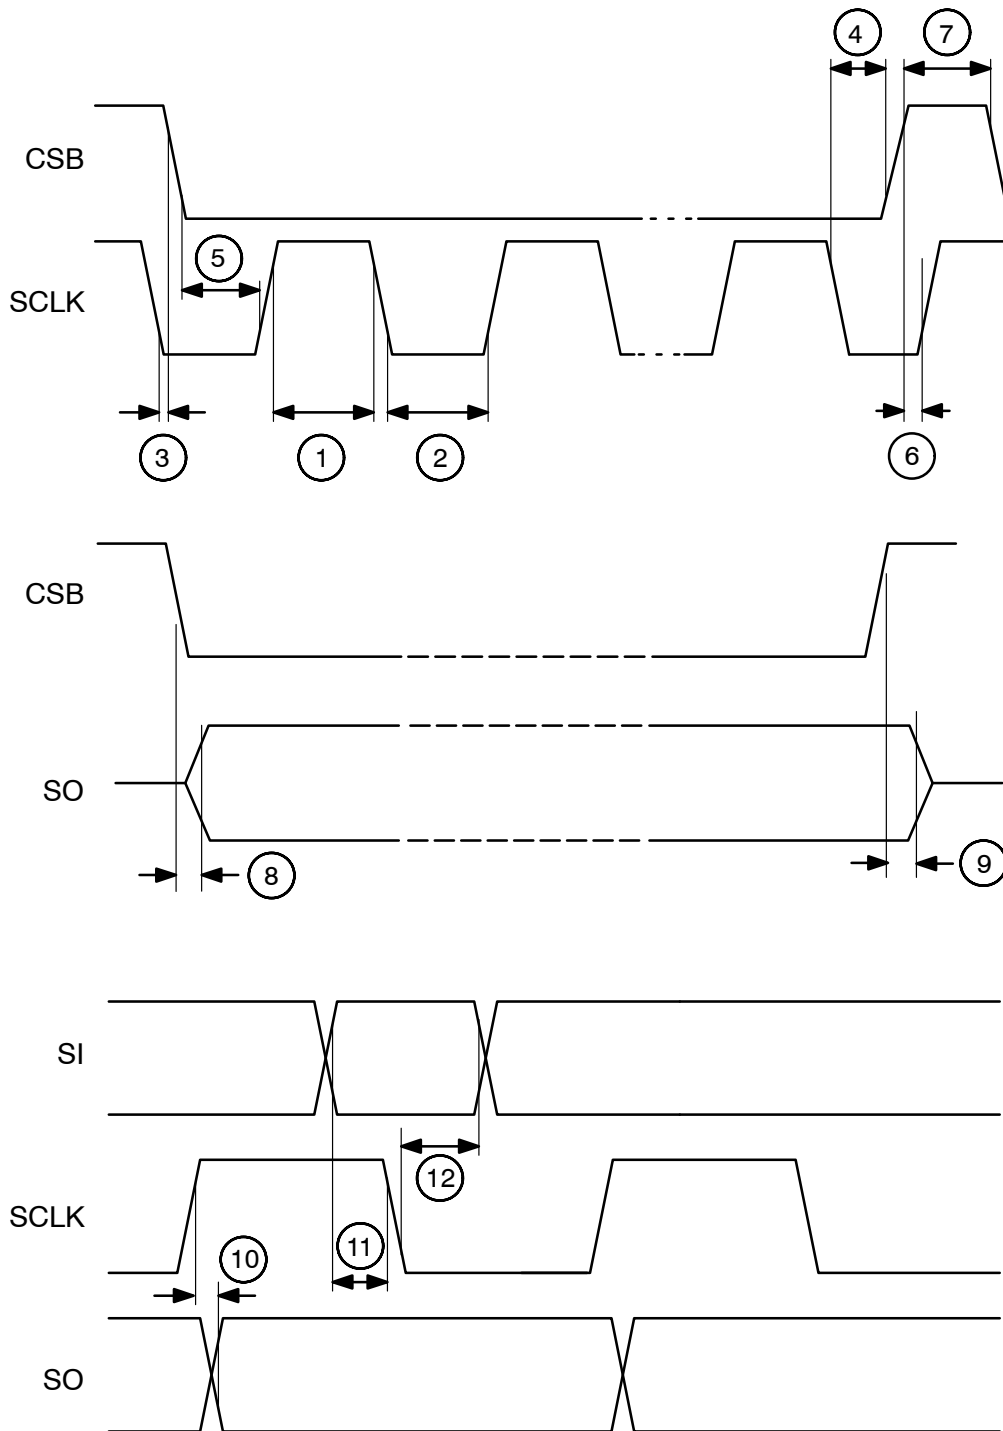

Figure 6. Detailed SPI Timing
3. CSB setup time (T_{csbSup} : Figure 6, #5) is satisfied.